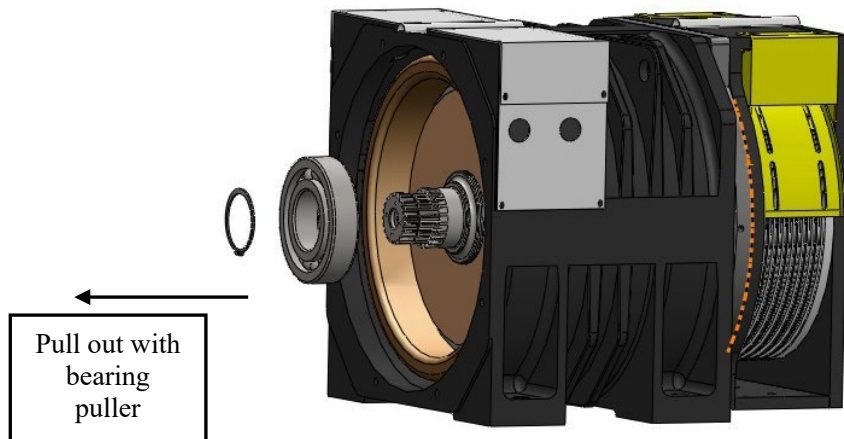

Figure 73 Remove Rear Bearing
7. Take off the retainer ring 90 with the retainer ring plier then take off the bearing (6318-DDU) with the hydraulic bearing puller. (It is permissible to cut the bearing off.) See Figure 73.